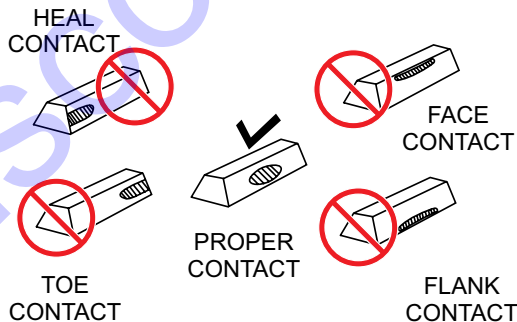

Figure 28. Gear Teeth Alignment
4. If gear teeth are not contacting properly (Figure 28), adjust pillow block to correct the problem.